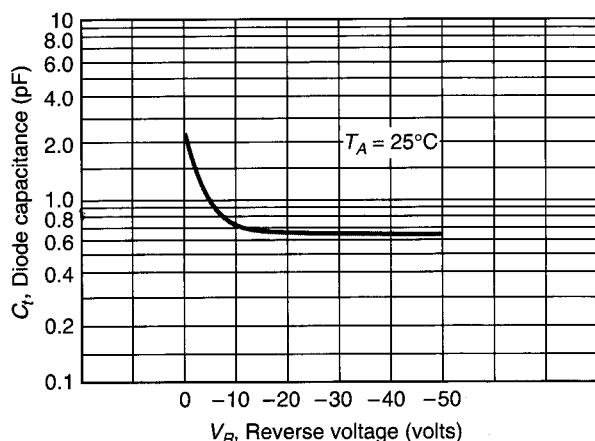

FIGURE 5.21 MPN3700 diode capacitance curve. (Copyright of Semiconductor Component Industries, LLC. Used by permission.)
The capacitance of a reverse-biased PIN diode is relatively constant over a wide range of reverse voltages. For example, the diode capacitance curve for the MPN300 PIN diode is shown in Figure 5.21. Note that the diode capacitance remains at approximately
0.65 pF over the  $V_R$  range of  $-30$  to  $-50$  V. Over the  $V_R$  range of  $0$  to  $-30$  V, the component has a capacitance curve similar to that of a varactor. The capacitance curve in Figure 5.21 is typical for PIN diodes.